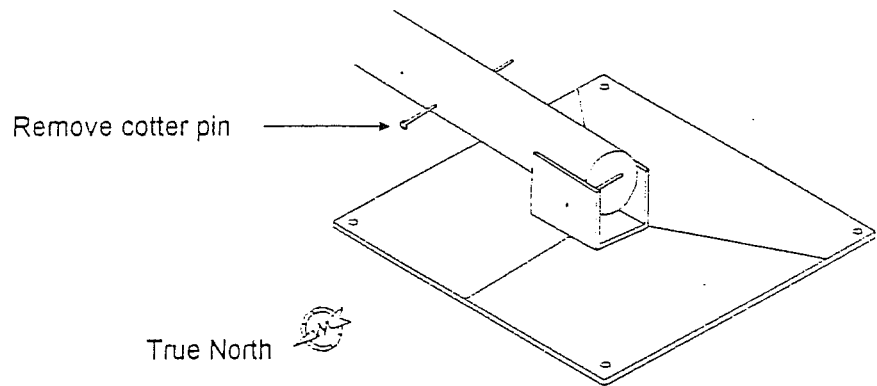

Figure 4-3
1. Bolt the base plate to the bottom section of the mast and lay the mast on the ground with the base plate in the location where the mast will stand (see Figure 4-3). Use the included spikes to secure the base to the ground.